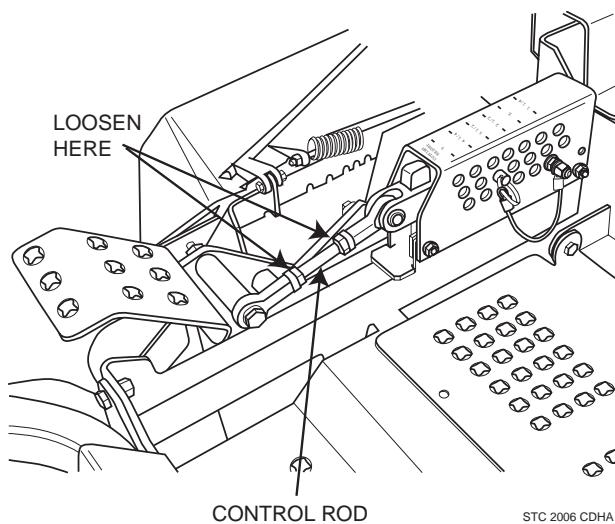
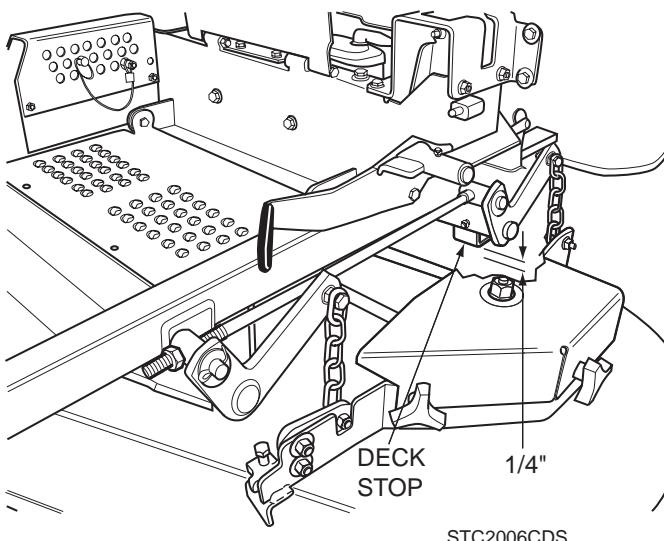

Figure 6-6. Cutter Deck Height Adjustment
Figure 6-7. Cutter Deck Stop
1. Place the cutter deck in the transport position. Loosen the jam nuts on both ends of the deck height control rod. (See Figure 6-6).
2. Turn the control rod (See Figure 6-6) until there is a $1/4"$ space between the rear deck stop and the top of the cutter deck. (See Figure 6-7). Tighten the jam nuts on the control rod.
4. Check the measurement from the floor to the cutter blade tip. If the measurement is not at 3", an adjustment can be made using the deck height control rod. (See Figure 6-6).